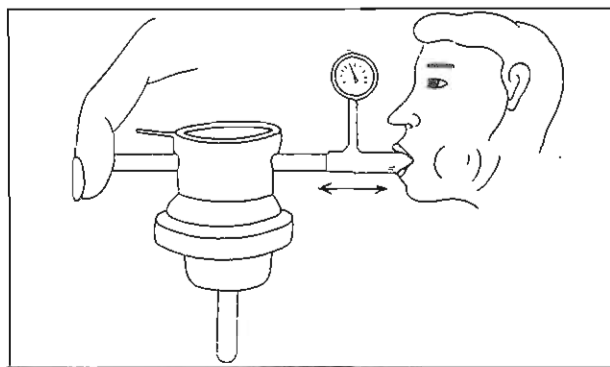

Fig. 1A-67 Checking check valve
2. Blind one end of the check valve by hand, and install the pressure gauge to the other end as shown in Fig. 1A-67.